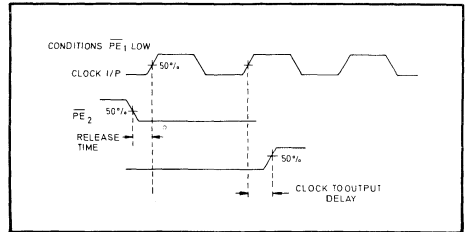

Fig. 4 Release timing diagram
- Release time is defined as the minimum time that can elapse between a H→L transition of a control input and the next L→H clock pulse transition to ensure that the ± 6 mode is forced by that clock pulse (see Fig. 4).